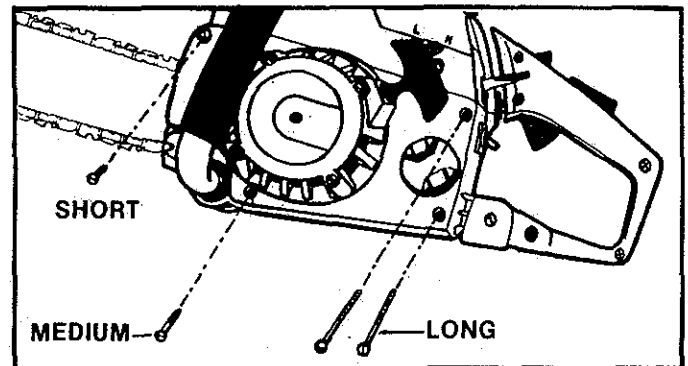

Figure 43
1. Remove the four screws on the side of the fan housing. Figure 43.